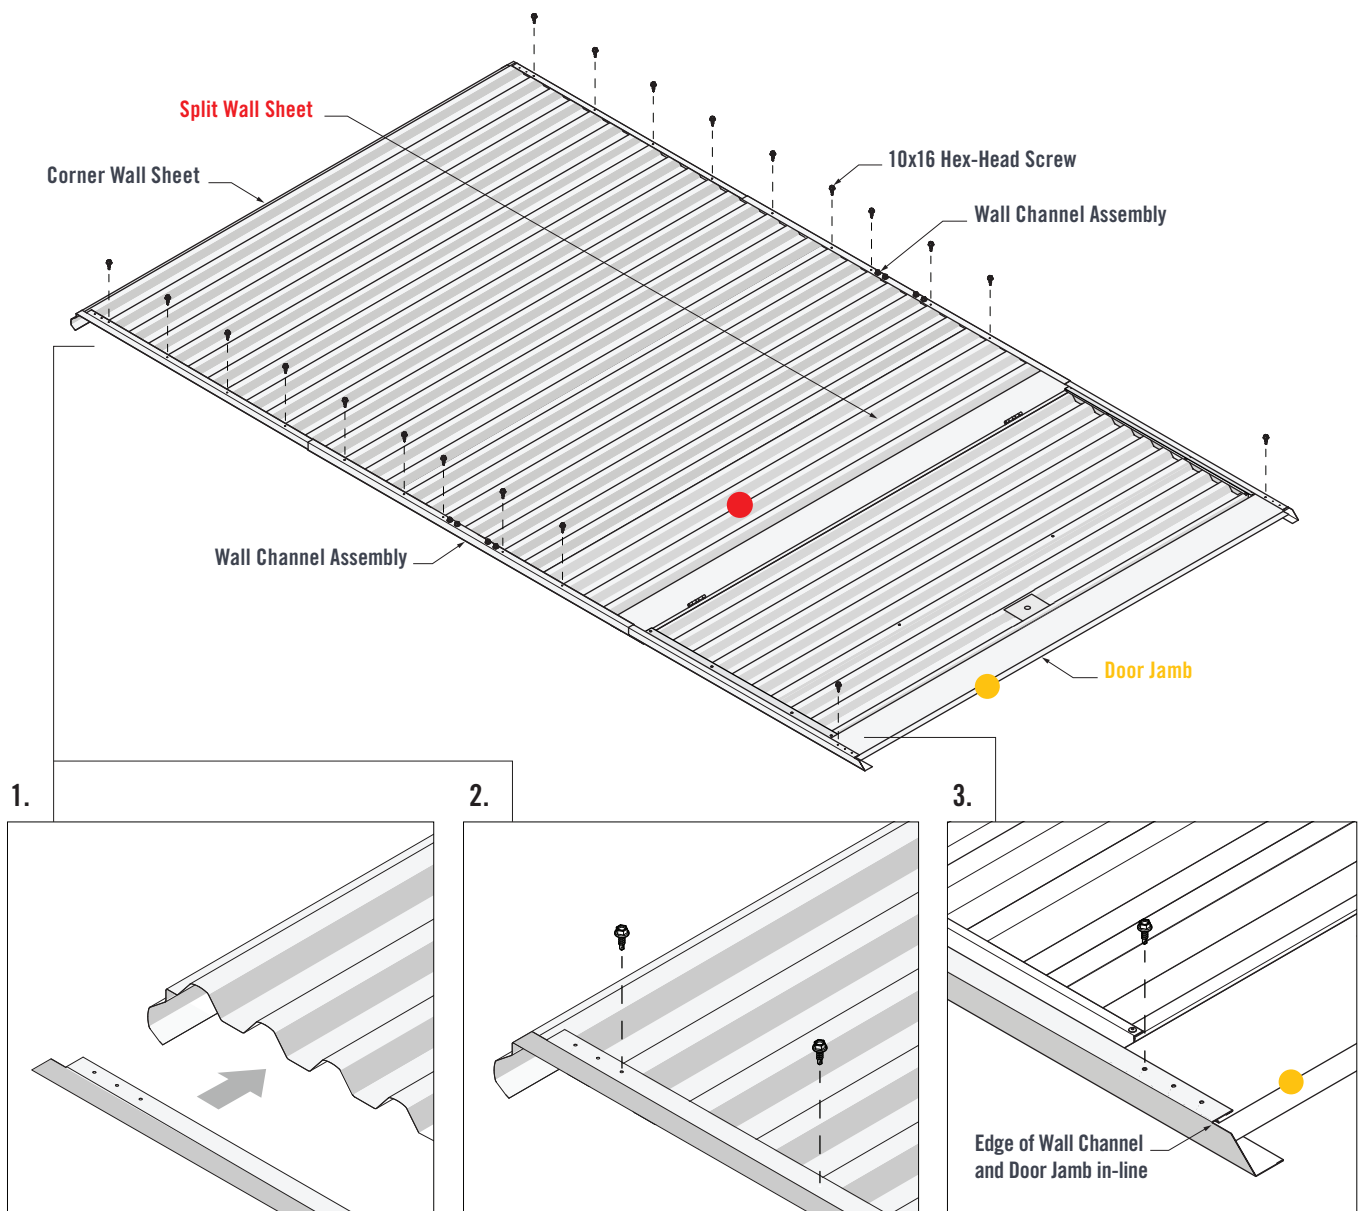

FIGURE 5.2
1. Fit two Wall Channel Assemblies over the lapped Wall Sheets and Door Jamb. The end of the Wall Channels should fit up against the end of the Corner Wall Sheet (Figure 5.2).
2. Fasten one 10x16 Hex-Head Screw through the third pilot hole of the bottom and top Wall Channels and into the Corner Wall Sheet crest. Fasten eight 10x16 Hex-Head Screws through the bottom and top Wall Channels and into every third Wall Sheet crest (Figure 5.2).
3. Ensure the edge of the Wall Channels and Door Jamb are in-line. Fasten one 10x16 Hex-Head Screw through the third pilot hole of the bottom and top Wall Channels and into the Door Jamb (Figure 5.2).